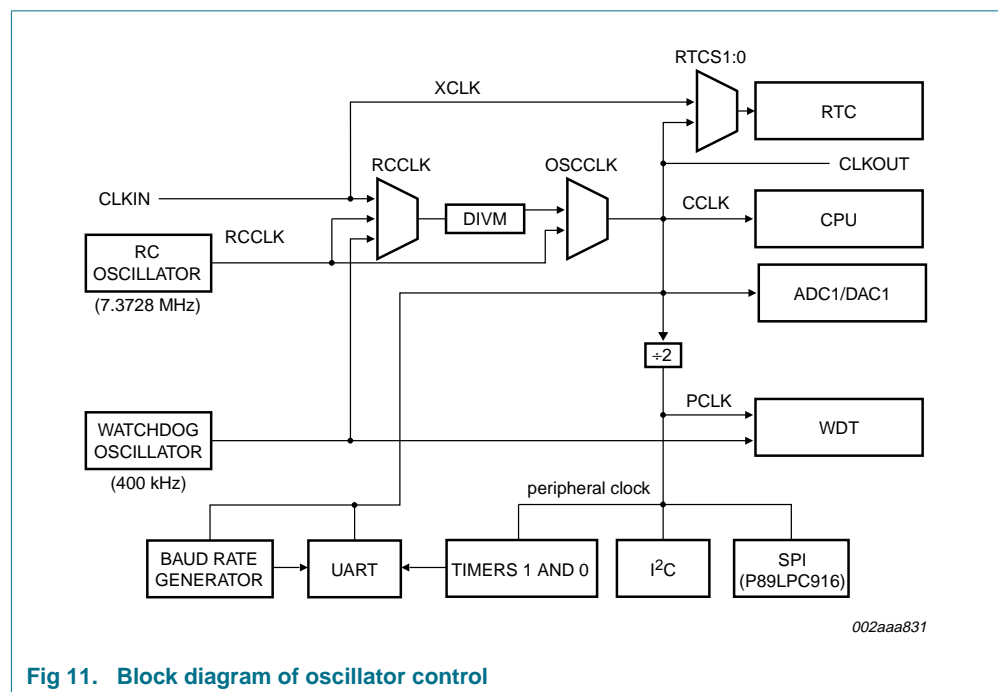

Fig 11. Block diagram of oscillator control
**OSCCLK** — Input to the DIVM clock divider. OSCCLK is selected from one of four clock sources (see Figure 11) and can also be optionally divided to a slower frequency (see Section 8.8 “CCLK modification: DIVM register”).